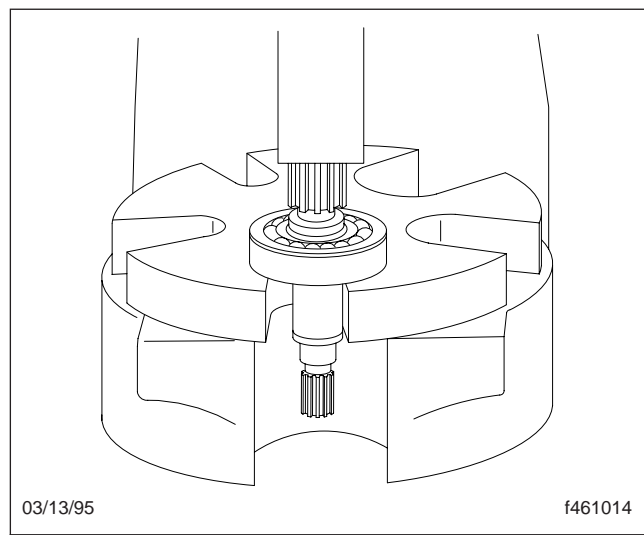

Fig. 25, Pressing the Input Shaft
- 9.2 Applying pressure to the engine drive end of the input shaft, press the input shaft from the ball bearing. See Fig. 25.